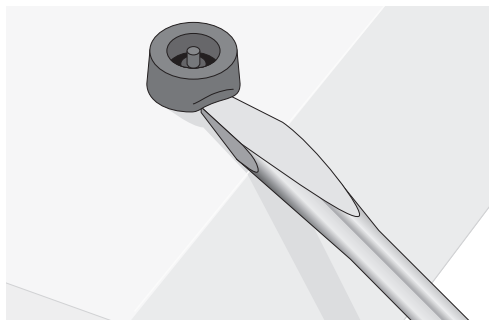

Figure 18. Removing the Feet
2. Using a flat-head screwdriver, remove the snap-on plastic feet from the bottom of the switch, as shown in Figure 18.